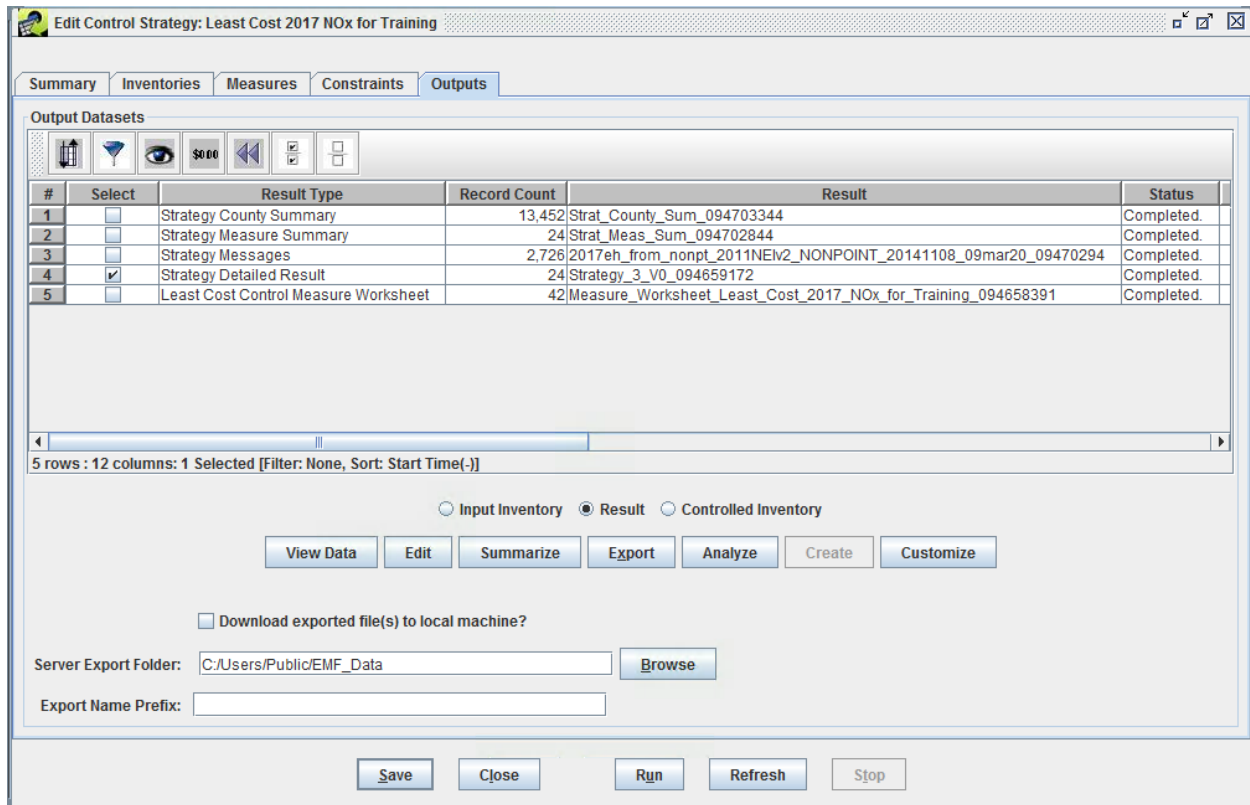

Figure 4.17: Outputs Tab of Edit Control Strategy Window for Least Cost Strategy
**Step 5-3: List Control Strategy Run Outputs.** Once the strategy run completes, click on the **Outputs** tab in the **Edit Control Strategy** window and then click **Refresh** at the bottom of the window to see the outputs from the run listed in the **Output Datasets** table (Figure 4.17 and Figure 4.18).